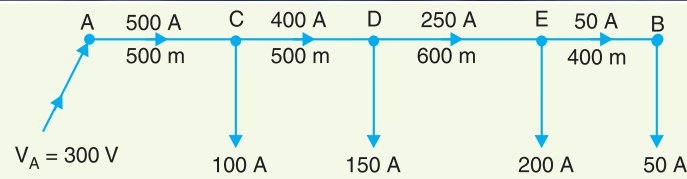

Fig. 13.6
**Solution.** Fig. 13.6 shows the single line diagram of the distributor with its tapped currents.
Referring to Fig. 13.6, the currents in the various sections of the distributor are :